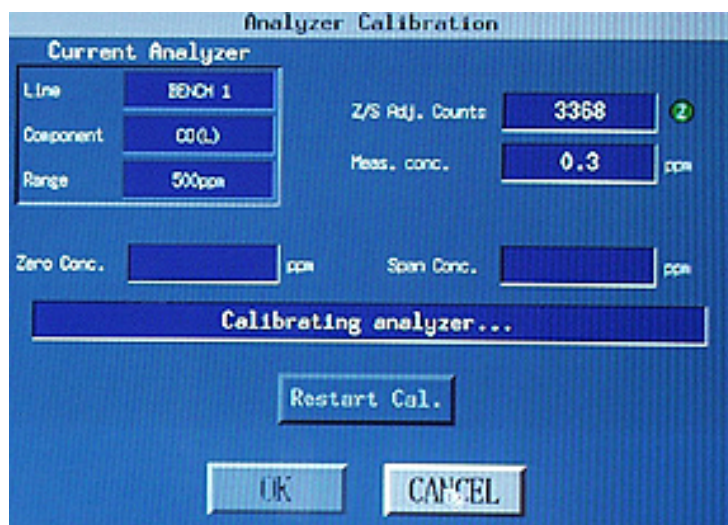

Figure 24
- 123 An automatic zero and span calibration check of the analyzer will occur. The indicator flashes “Z” during zero and “S” during span. See Figure 24.